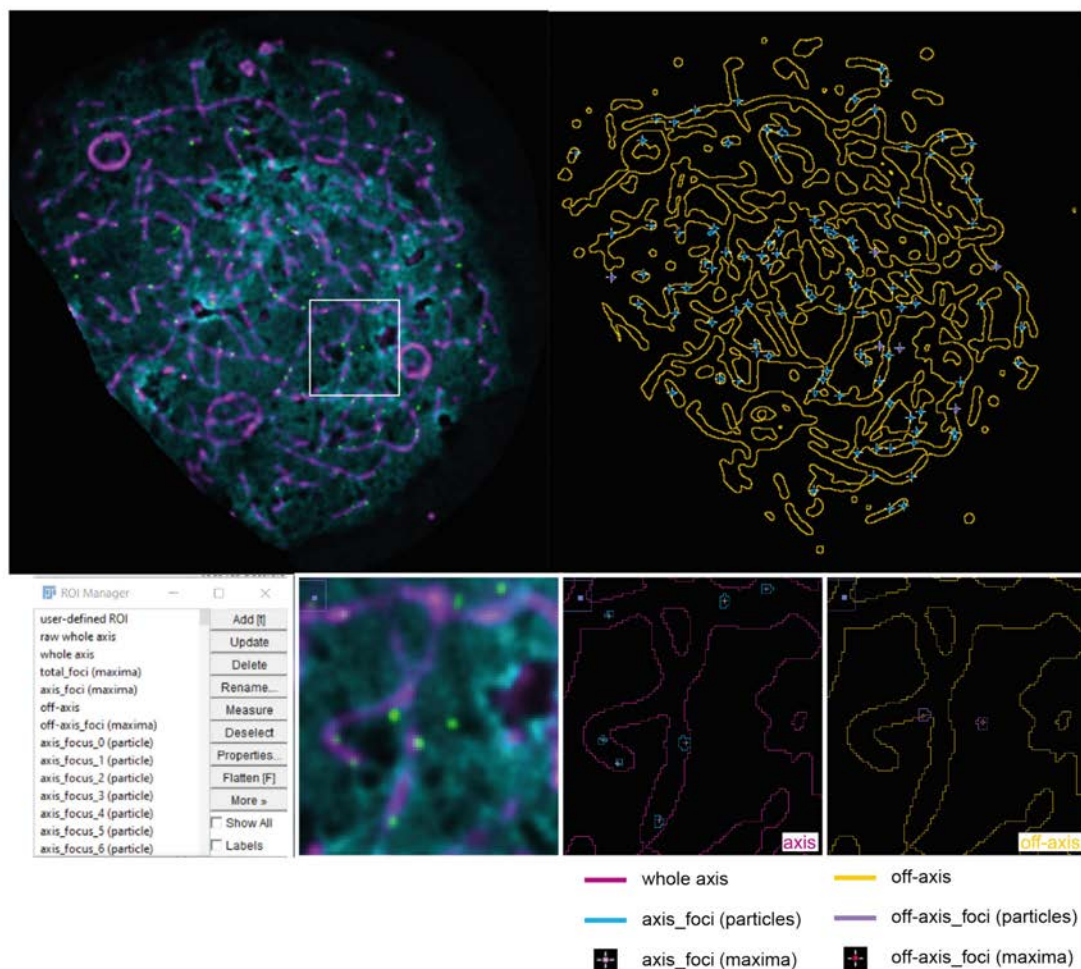

Figure 6.17. Control ROIs as generated by the Count axis and off-axis foci in one channel macro.
**STEP11.** To ensure precise analysis control, when selecting the save ROIs option, utilize the "Start checking results" tool in the main meiosis bar. This will prompt the appearance of the "check results" window (refer to figure 6.17). If you simply run the macro without any modifications, the default folder and method will be sufficient. However, if you wish to monitor and manage the macro's results, specify both the folder and the option for "Count axis and off-axis foci in one channel".
The first image analysed will be opened together with its companion foci\_RoiSet\_[name].zip file ROI set, as in fig. 6.17. The ROI Manager contains several ROIs: